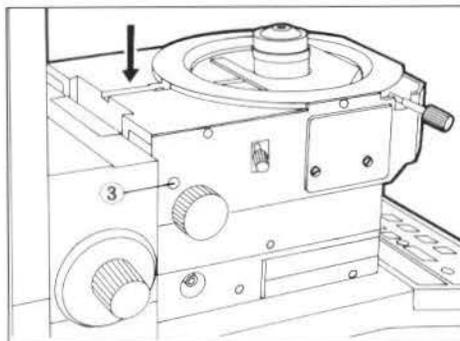

Fig. 4
2. Insert the stage mounting bracket all the way into the dovetail without tilting. Slightly lifting the front side, insert the bracket until it reaches the index line behind the dovetail (as shown by ARROW), and clamp the Hexagon screw ③ with the Hexagon wrench provided. (Fig. 4)